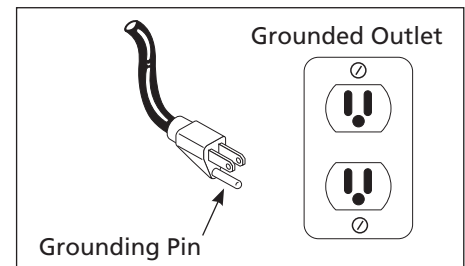

Figure 7 - Grounding Method
3. This product is for use on a nominal 120 volt circuit and has a grounding plug that looks like the plug illustrated in Figure 7. Make sure the product is connected to an outlet having the same configuration as the plug. This product must be grounded. In the event of an electrical short circuit, grounding reduces risk of electrical shock by providing an escape wire for electric current. This product is equipped with a cord having a grounding wire with an appropriate grounding plug. Plug must be plugged into an outlet that is properly installed and grounded in accordance with all local codes and ordinances.